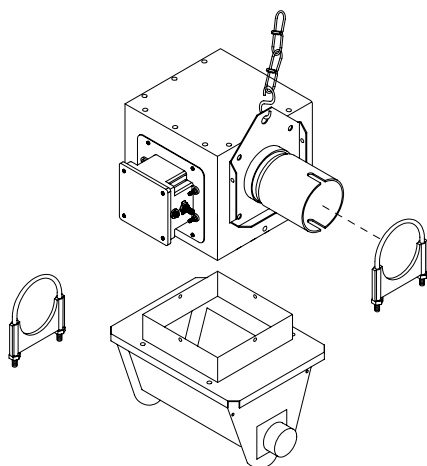

Figure 23: Extension Hopper
2. Suspend the top section from the ceiling as shown in Figure 23. Support holes are provided on the top section for mounting. When mounting, make allowance for future adjustments of the top section after the bottom section has been connected.